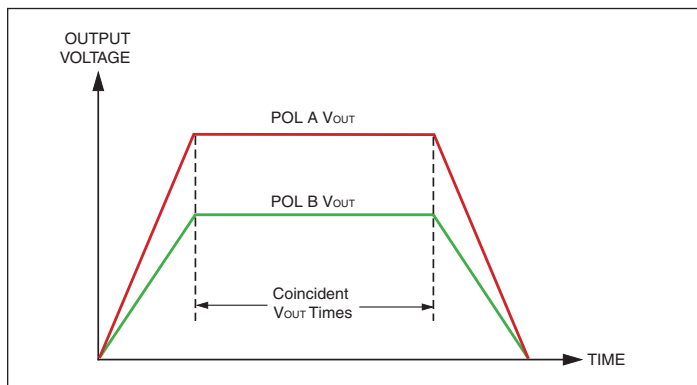
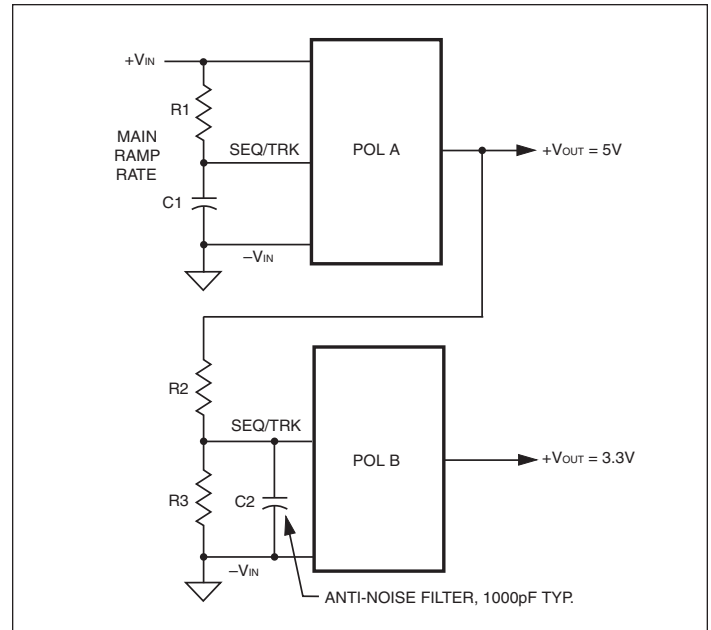

Figure 9. Proportional or Ratiometric Phasing (Identical  $V_{out}$  Time)
Figure 14. Proportional Phasing
Figure 9 shows two POLs with different slew rates in order to reach differing final voltages at about the same time.
Figure 14 shows both a RC ramp on Master POL A and a proportional tracking divider (R2 and R3) on POL B. We have also added an optional very small noise filter cap at C2. Figure 14's circuit corresponds roughly to Figure 9's timing for power up.
- [7] The Sequence is a sensitive input into the feedback control loop of the converter. Avoid noise and long leads on this input. Keep all wiring very short. Use shielding if necessary. Consider adding a small parallel ceramic capacitor across the Sequence/Track input (see Figure 14) to block any external high frequency noise.